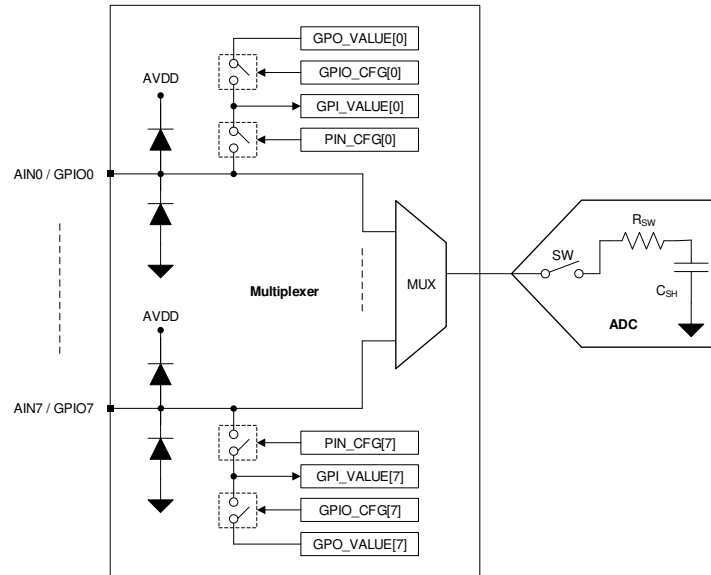

Figure 7-1. Analog Inputs, GPIOs, and ADC Connections
The eight channels of the multiplexer can be independently configured as ADC inputs or general-purpose inputs/outputs (GPIOs). As shown in Figure 7-1, each input pin has ESD protection diodes to AVDD and GND. On power-up or after device reset, all eight channels of the multiplexer are configured as analog inputs.
Figure 7-1 shows an equivalent circuit for the pins configured as analog inputs. The ADC sampling switch is represented by an ideal switch (SW) in series with a resistor (R_{SW} , typically 150 Ω) and a sampling capacitor (C_{SH} , typically 30 pF). During acquisition, the SW switch is closed to allow the signal on the selected analog input channel to charge the internal sampling capacitor. During conversion, the SW switch is opened to disconnect the analog input channel from the sampling capacitor.
To enable write access to the configuration registers for diagnostics, write 0x96 in the DIAGNOSTICS_KEY register. To enable bit-walk test mode, configure BITWALK_EN = 1b. In the bit-walk test mode (see Figure 7-1), the sampling switch (SW) remains open and the test voltage is applied on the sampling capacitor (C_{SH}) during the acquisition phase of the ADC. In diagnostic mode, the conversion process of the ADC remains the same as normal device operation. The ADC starts the conversion phase on the rising edge of $\overline{CS}$ and outputs the code corresponding to the sampled test voltage. The output code of the ADC is expected to be proportional to the test voltage, as shown in Equation 2, after adjusting for DC errors (such as INL, gain error, offset error, and thermal drift of offset and gain errors).